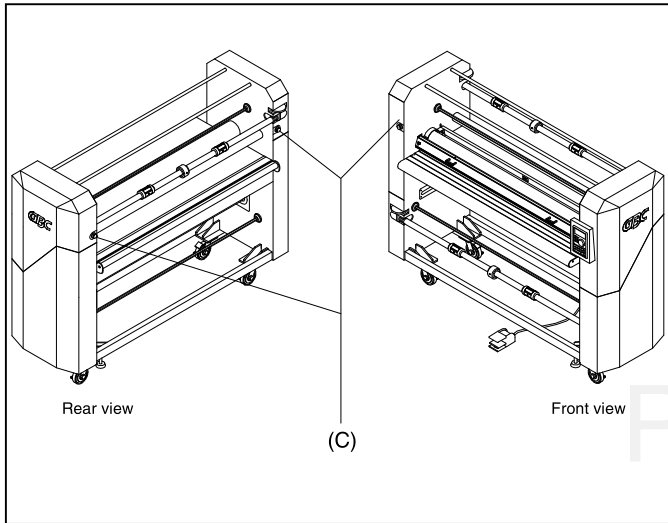

Fig. 10
**C. E-STOP:** Three emergency stop buttons exist on the laminator. One located at the right front and two at the rear. (Figure 10)